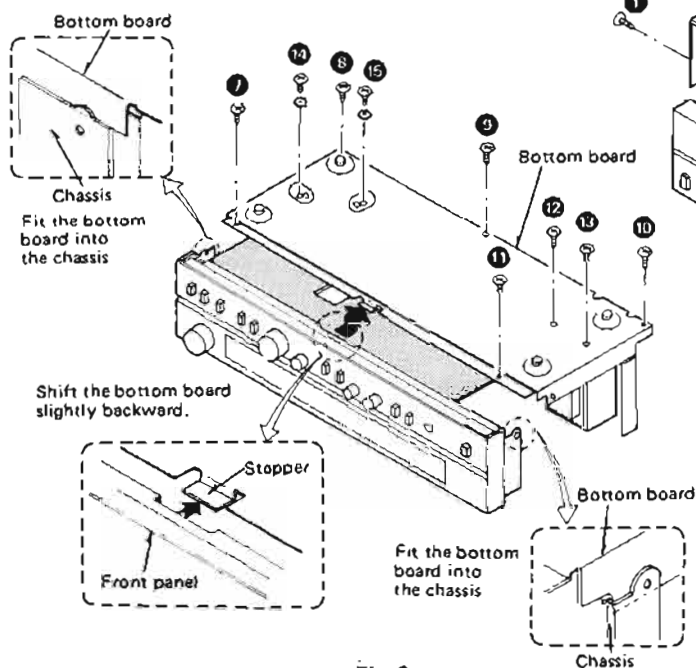

Fig. 2
2. Remove the 9 setscrews (Fig. 2: ⑦ ~ ⑮) of the bottom board.
3. Remove the bottom board as shown in Fig. 2.